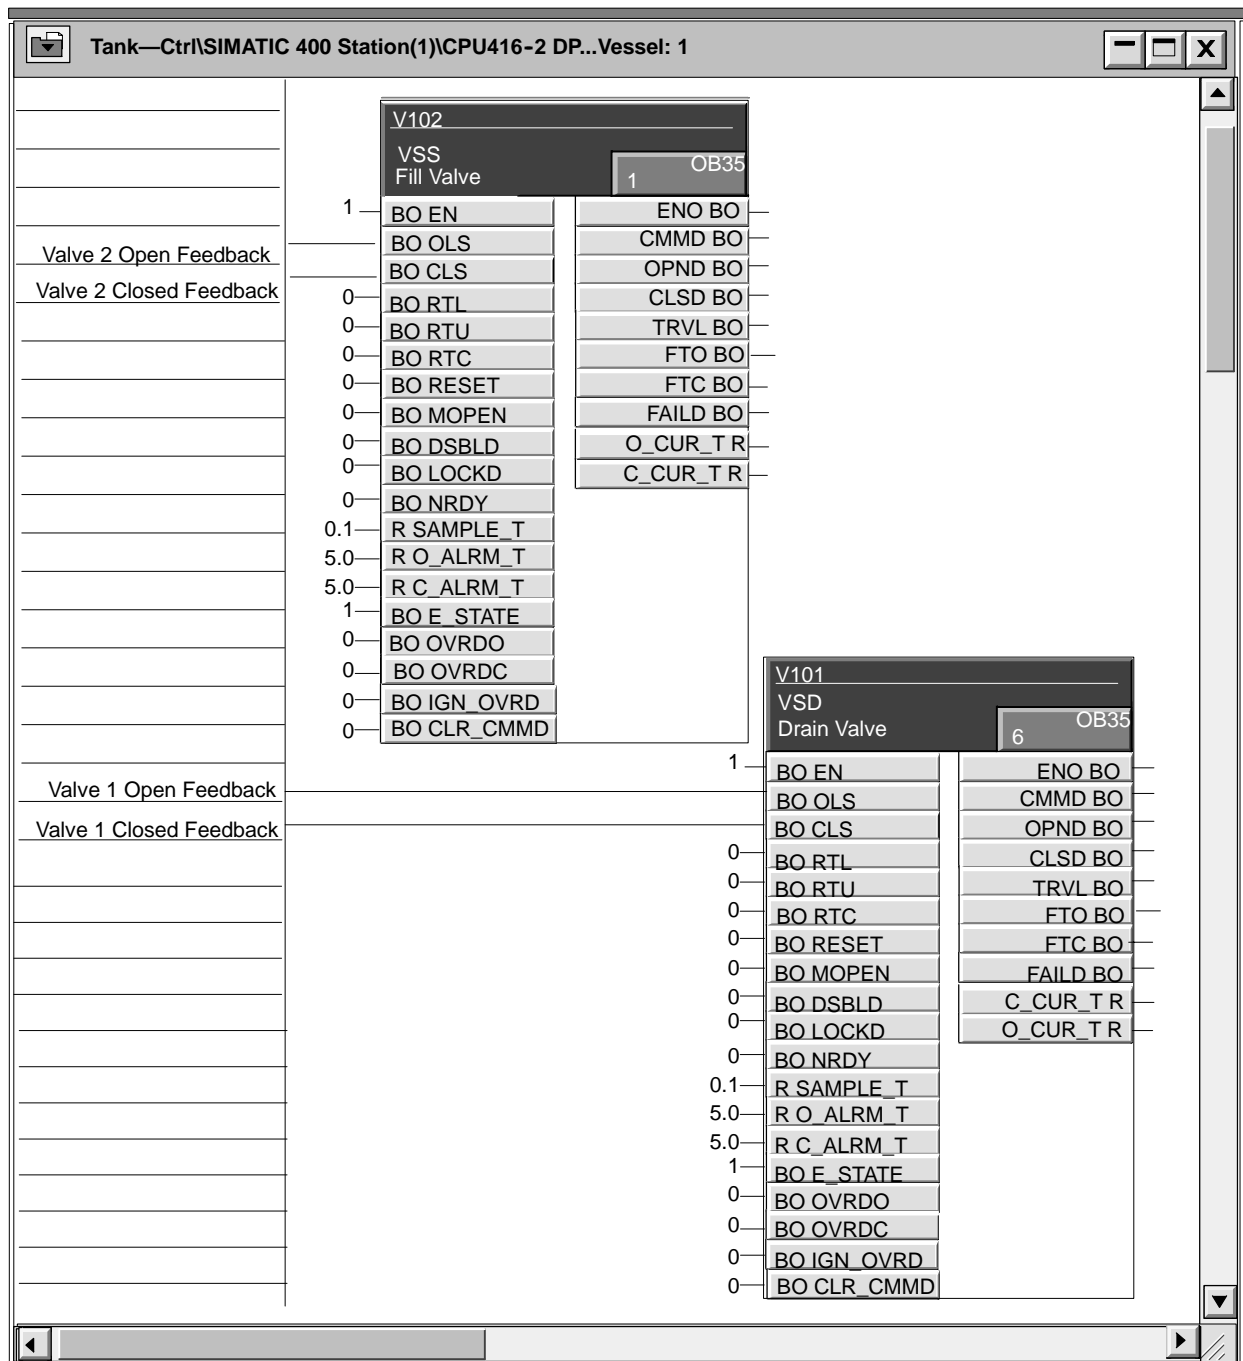
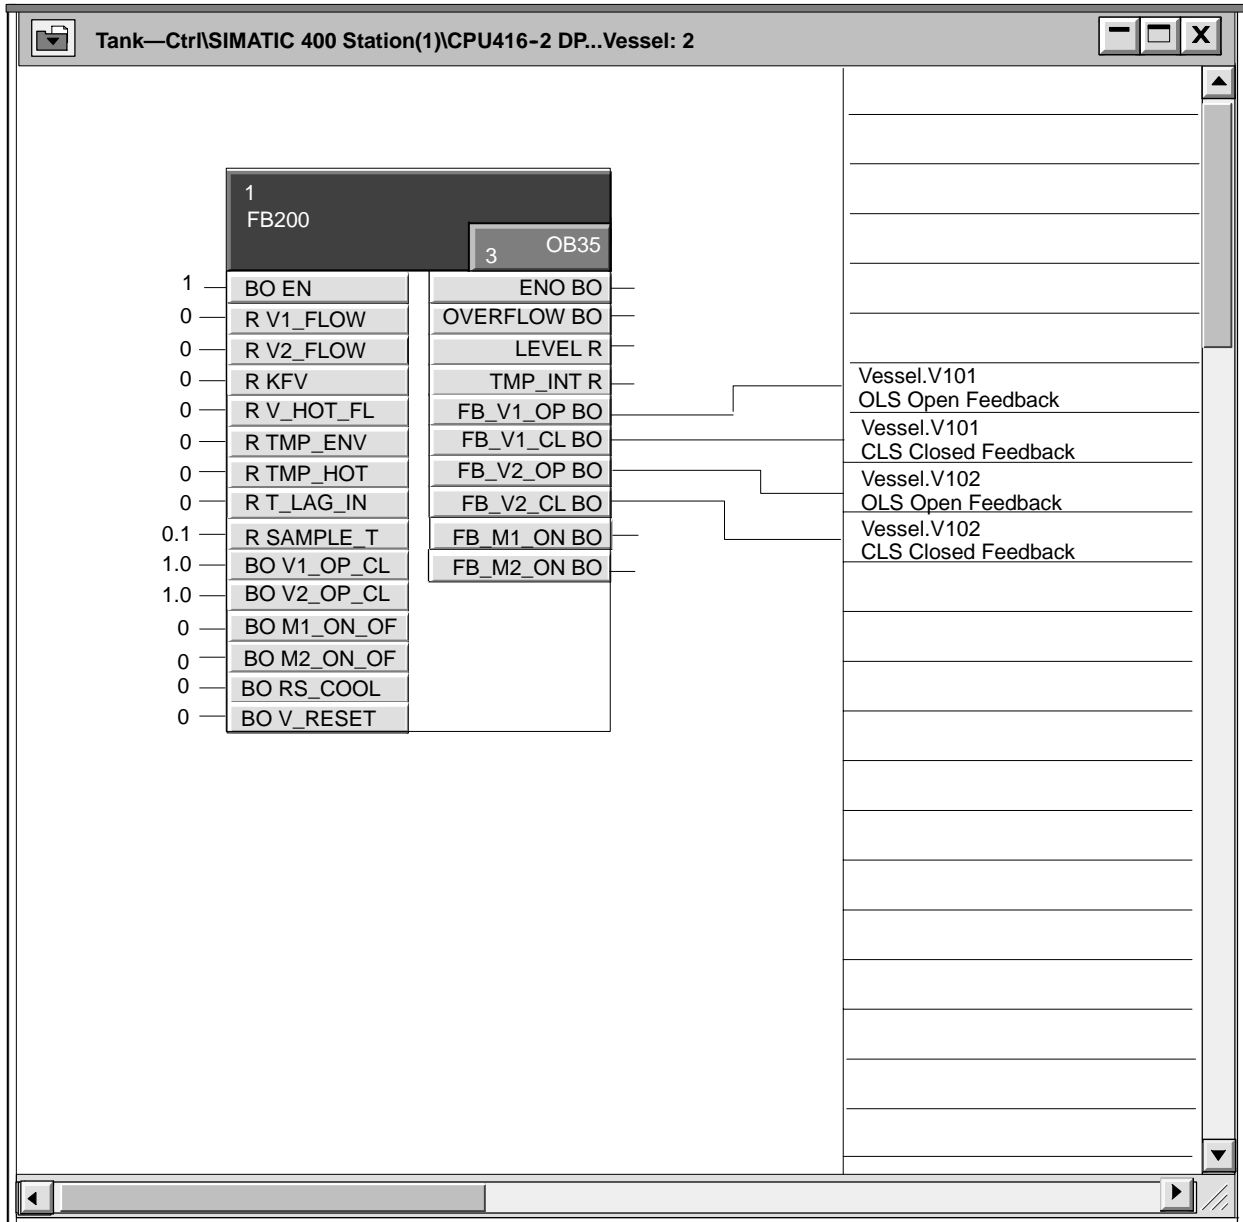

Figure 3-2 Left-Hand Window: Valve Function Block Connections
Figure 3-3 Right-Hand Window: Simulation Block Connections
4. Repeat steps 2 and 3 for each block connection listed in Table 3-2. Center the left-hand sheet on V102, M101, or M102 as necessary (Figure 3-2 and Figure 3-3).